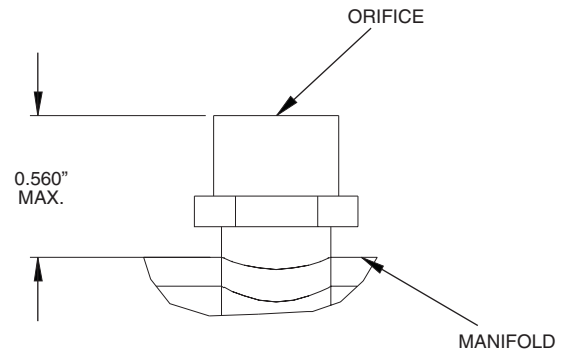

Fig. 4 — Orifice Depth
3. Insert the new orifices from the accessory kit. The orifices should be screwed in until 2 threads remain visible. See Fig. 4.